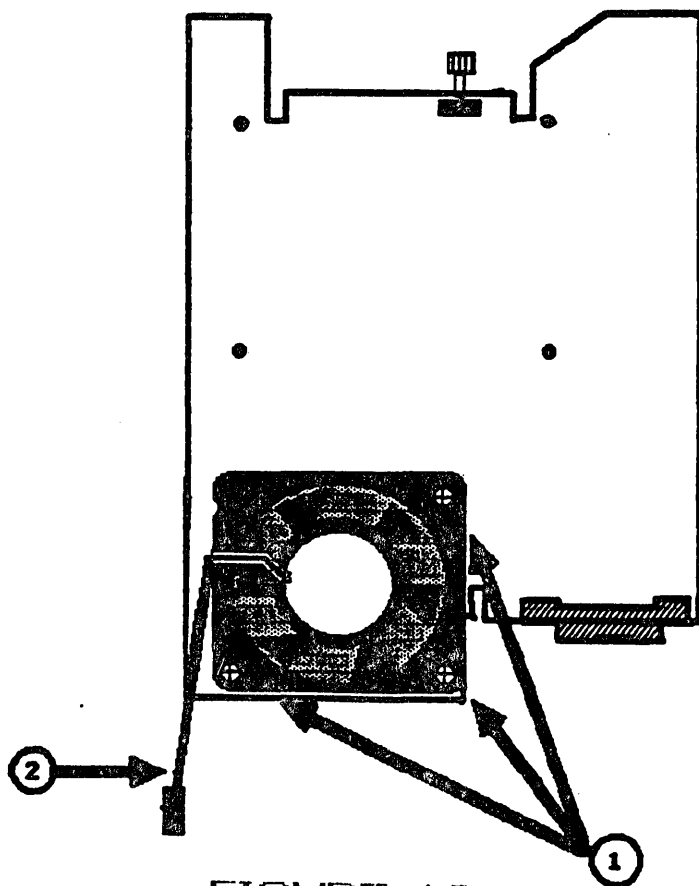

FIGURE 12
4. Remove the three screws (see Figure 12, #1) that attach the fan to the carrier.
1. Place the fan back over the proper carrier screw holes and orient it so that the fan wire (see Figure 12, #2) comes out against the vented wall of the carrier.